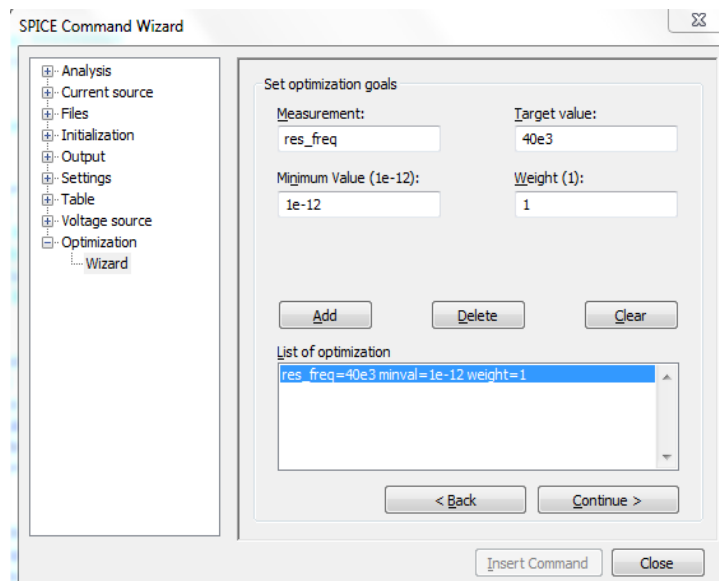

Figure 77: Customizing the optimization goals
- ☑ Set **Measurement** to **res_freq** and **Target value** to **40e3**. Click **Add** to add these values to the **List of optimization goals** (Figure 77).